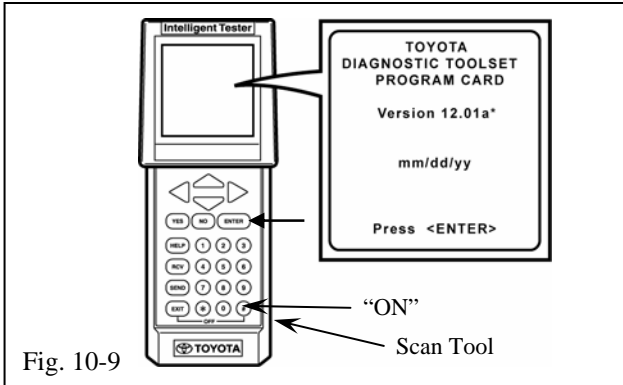

Fig. 10-9
- (j) Push the scan tool main switch to “ON,” then press the “ENTER” button. (Fig. 10-9)